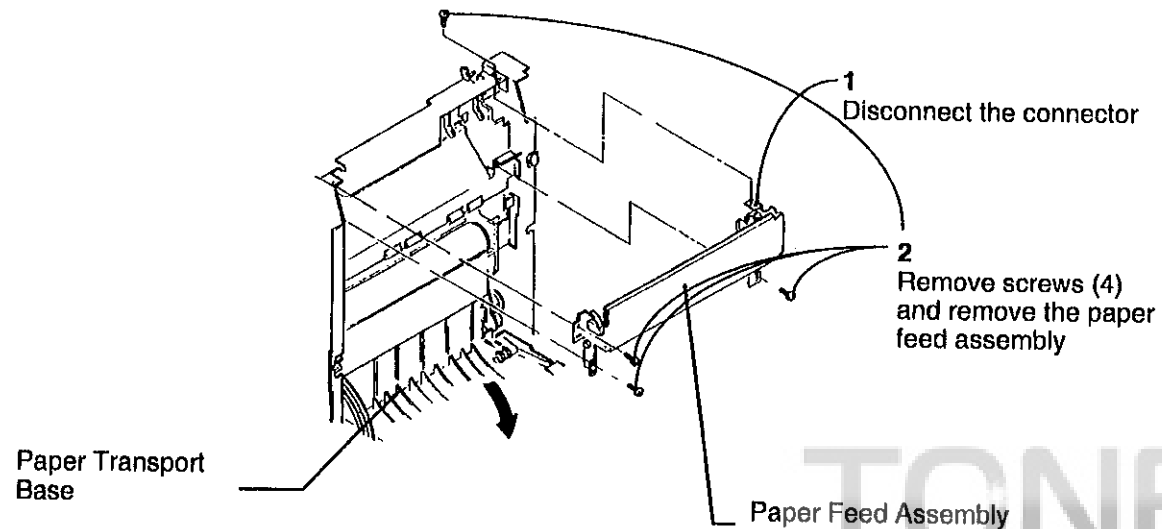

Figure 2. Removing the Paper Feed Assembly
- 6 (Figure 2) Remove the paper feed assembly.